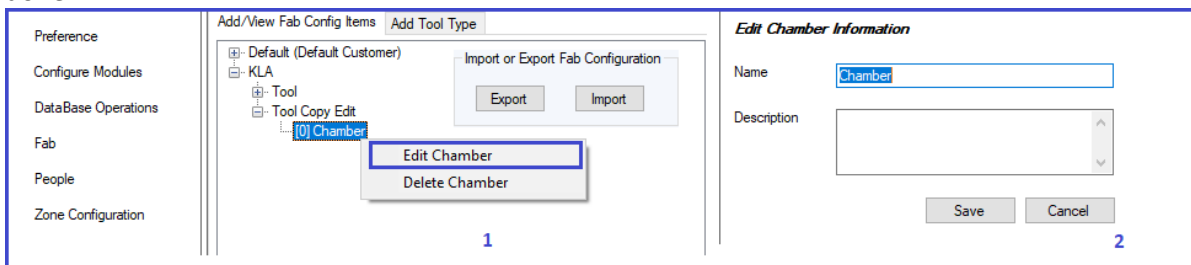

Figure 5-15 To modify the chamber properties
- 16. Right click on the tool **Chamber**, then click on **Edit Chamber**. You can see the **Edit Chamber Information** section will open, as shown in Figure 5-15.